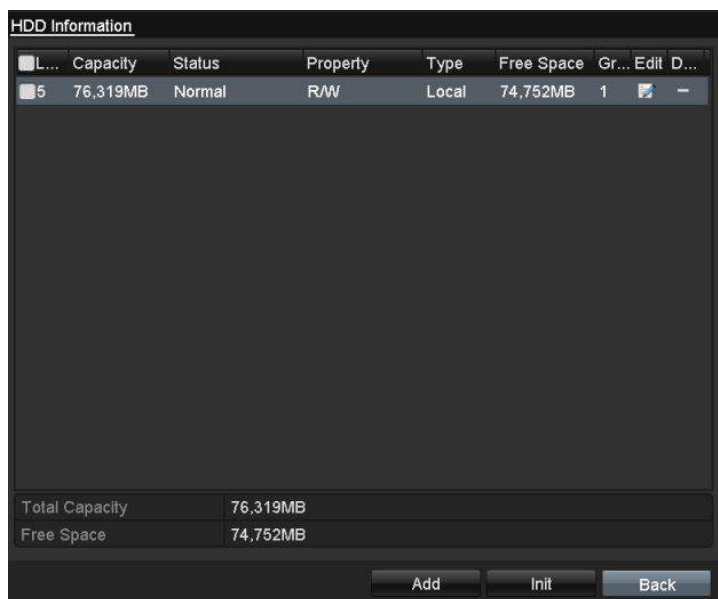

Figure 13. 25 View HDD Status (1)
2. Check the status of each HDD which is displayed on the list, as shown in Figure 13. 25.